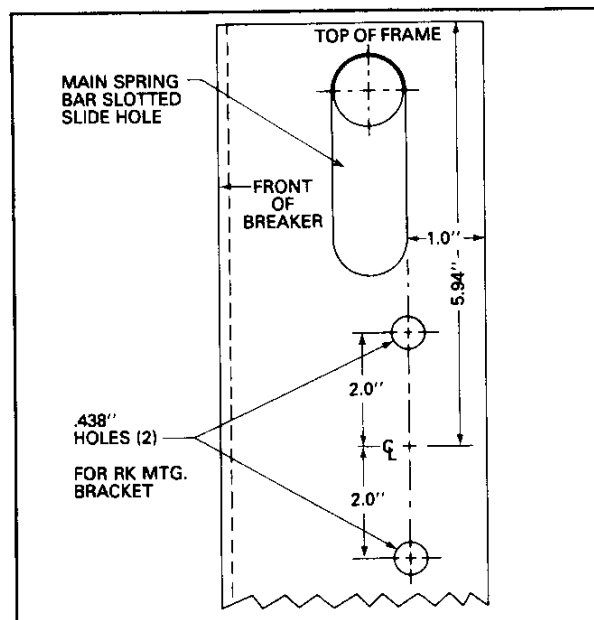

Fig. 5 Middle Front, Right Side View
- Viewing the breaker from the right side locate the main spring slotted slide hole which is $1'' \times 3''$ and located on the side of the front middle frame. Using the inner edge of the hole as a guide, scribe a line 5.94 inches from the top of the frame (See Fig. 5) to locate a centerline.
- From this centerline locate a point 2.0 inches above and 2.0 inches below, drill two .438 holes. Fig. 5